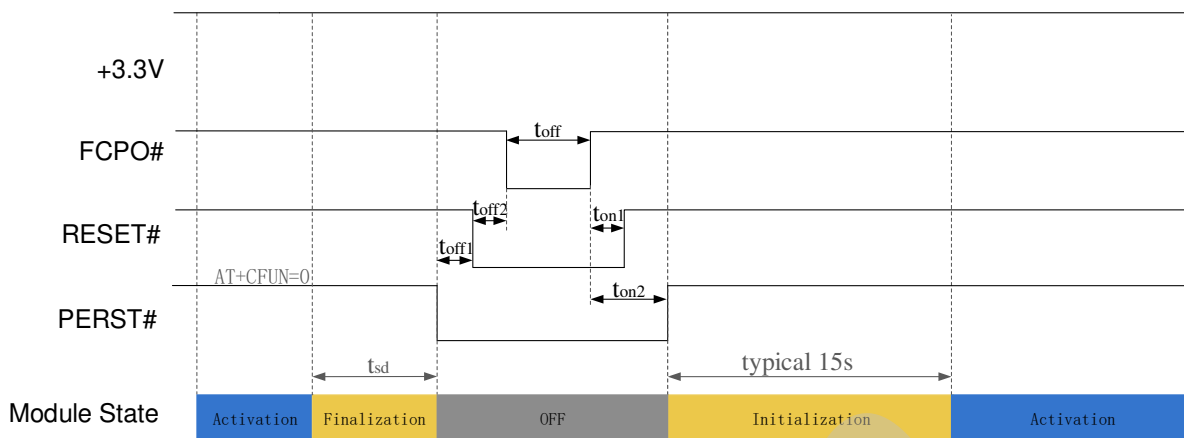

Figure 3-9 Reset control timing2nd
- Reset timing 2nd in Figure 3-9, PMU of module internal will be off in reset sequence (including whole power off and power on sequence,  $t_{sd}$  can refer section 3.3.2), recommend using in system warm boot.
Restart	Refer to section <a href="#">3.3.3</a> Figure 3-9 Reset control timing 2nd